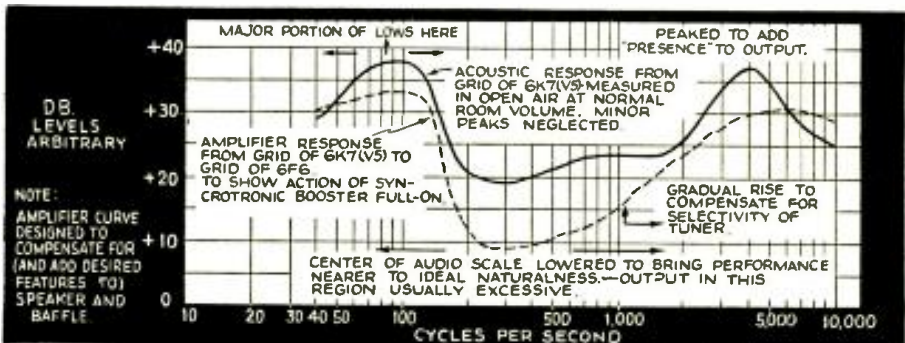

Fig. 2. Response curve of the Syncrotronic audio channel of the 11-tube receiver.
The I.F. transformers have 2 adjustments, both of which are accessible from the top of chassis (see Fig. 2).
- (a) With external oscillator set at 1,720 kilocycles, adjust oscillator trimmer to resonance. This adjustment is on the top of rear section of variable gang condenser. (See Fig. 2.)